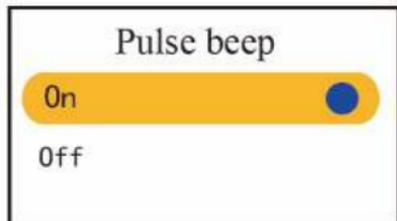

Figure 4.10C Pulse beep setup
- **Pulse beep:** To turn on/off pulse beep, the factory default is “On”, as shown in figure 4.10C. If the global sound is enables by longtime pressing , key, and the pulse beep is set to “On” option, and when there is no over-limit event, then pulse beep sound can be heard during SpO2 measurement.